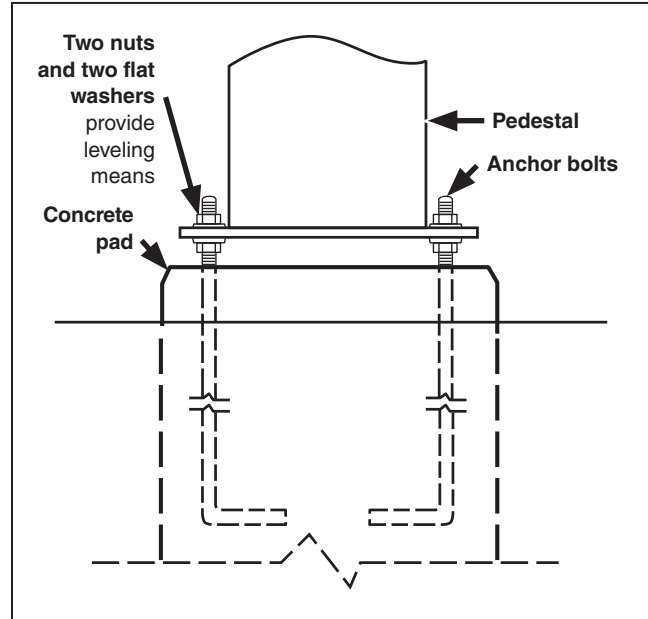
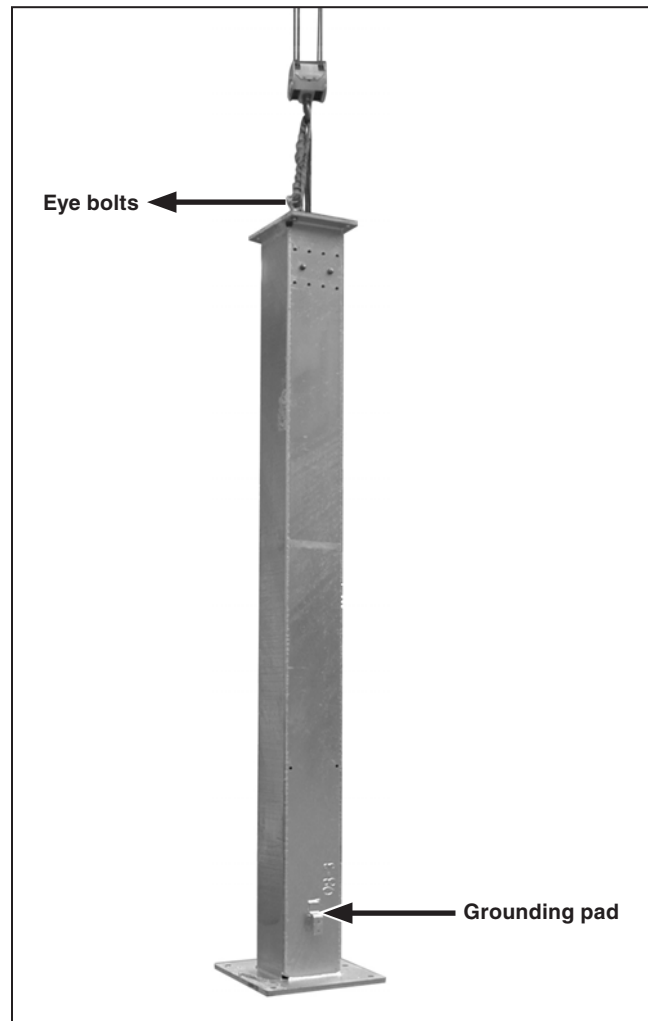

Figure 3. Pedestal mounting detail.
Figure 4. Lift the pedestal into position.
STEP 1. Install the mounting pedestals. See Figure 3 and Figure 4. Make sure the grounding pad on each mounting pedestal is properly positioned for this particular installation.